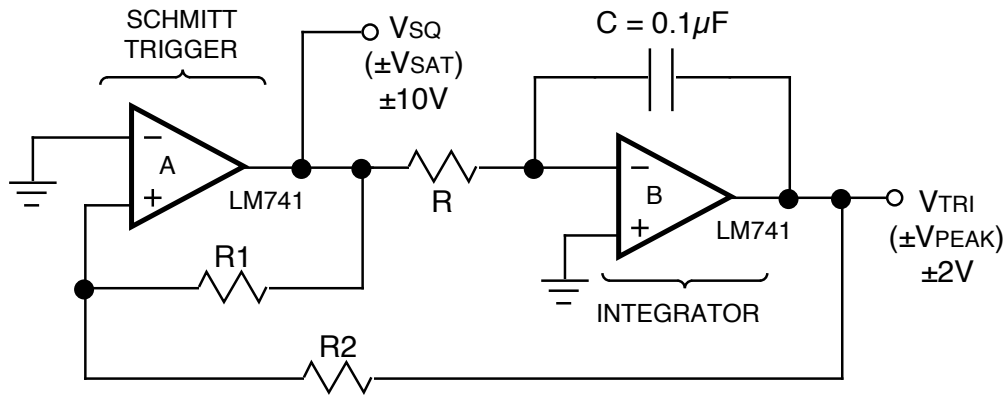

Figure 3.1. Function Generator.
- P1. Function generator: Figure 3.1 shows a function generator circuit that produces both square wave and triangular wave outputs.
1. Construct the circuit of Figure 3.1 with your design values from prelab section P1.2. Use the LM348 quad op-amp, which contains four independent LM741 op-amps in a 14-pin package. Begin with the supply voltages at  $\pm 12\text{V}$ . Once the circuit is operating, adjust the supplies independently for comparator outputs of  $\pm V_{\text{SAT}} = \pm 10\text{V}$ .